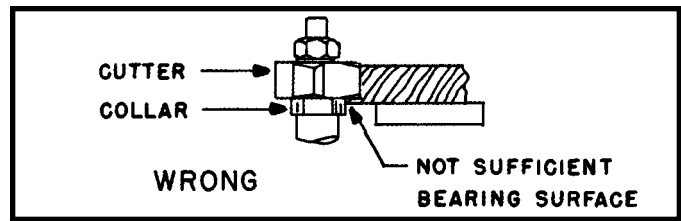
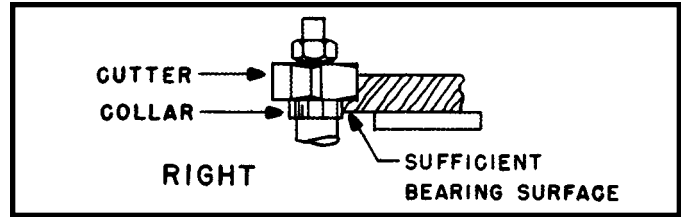

Fig. 39
Fig. 40
3. A portion of the edge of the work **MUST** remain untouched by the cutters in order that the collar will have sufficient bearing surface. Fig. 39 illustrates the wrong way for the operation while Fig. 40 illustrates the right way.